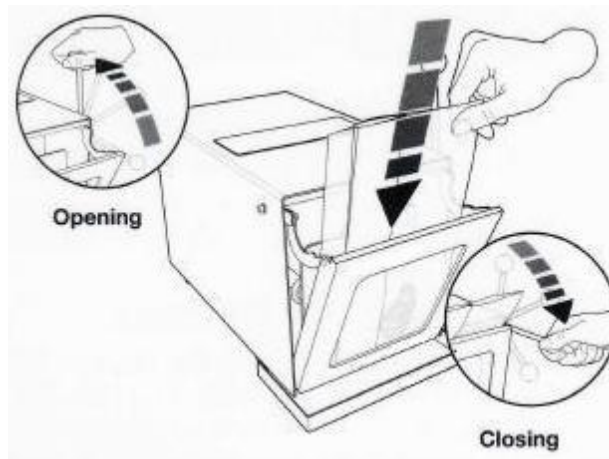

Fig. 4
- Open the door by pulling the lever forwards and upwards. Insert the sterile filter bag containing the sample with the diluting fluid in the unit. (Figure 4)